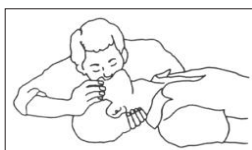

Figure 2
- If there is no breathing, start artificial respiration without delay (**Figure 2**) as follows: tilt the head backwards, pinch the nostrils, seal your mouth around the victim's mouth and give four fast rescue breaths.